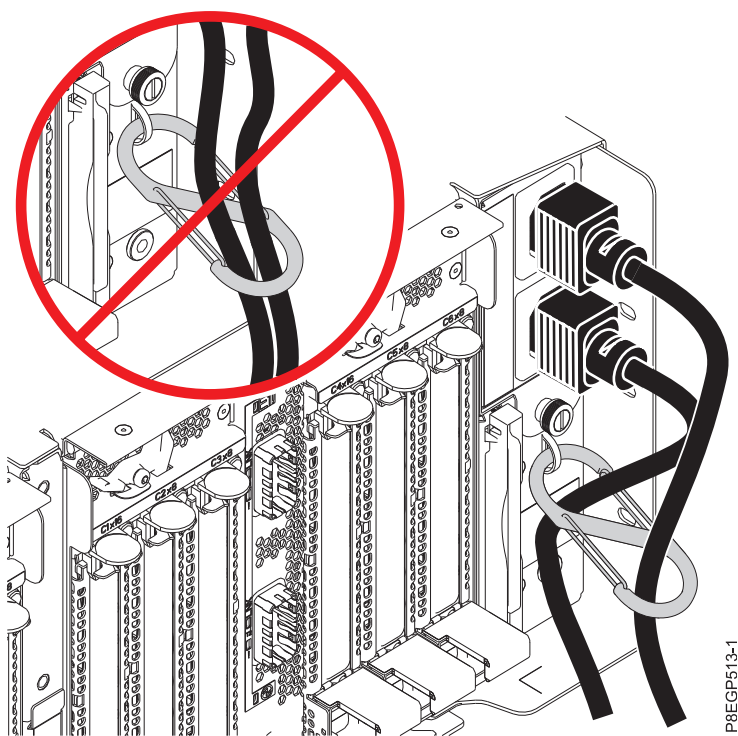

Figure 20. Routing the power cables through the s-carabiner and connecting them to the power supply
- b. Route the power cables through the s-carabiner so that the cables clear the PCIe3 6-slot fanout module or modules. See Figure 20 on page 26.
- c. Connect the other ends of the power cables into the power supplies on the EMX0 PCIe3 expansion drawer you are installing. See Figure 20.